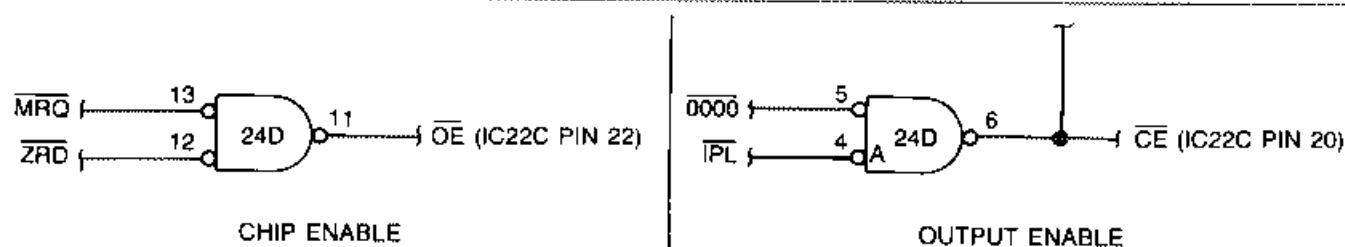

FIGURE 2-31. Z-80A IPL ENABLE CIRCUIT
2.3.2.2 Z-80A IPL Enable Circuit (Figure 2-31)